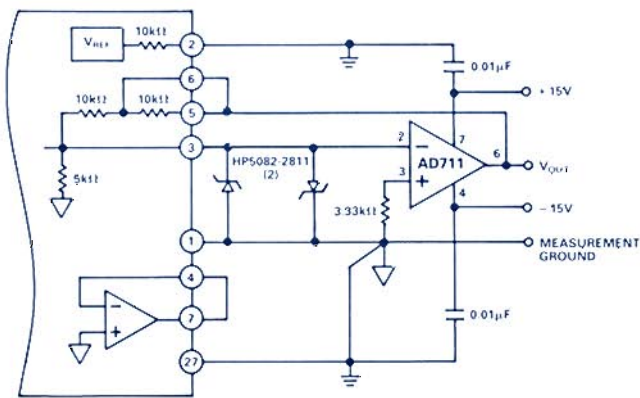

Figure 4. External amplifier for augmented DAC-output performance.
**External Output Amplifier:** The AD1139's output amplifier is optimized for very low noise, dc-stable applications and moderate settling time. For higher speed or more output current, an external op amp is used instead of the internal amplifier (Figure 4). The AD711 is a good choice for higher-speed applications; it will settle to within 16 bits in only 6  $\mu$ s for a unipolar full-scale step. Other amplifiers may be chosen for differing tradeoffs. The noise gain, as seen by the output amplifier, depends on the output voltage range selected: it is 2 for 0 to +5 V range, 3 for 0 to +10 V, and 7 for the  $\pm 10$  V range. The amplifier selected must be stable at the noise gain corresponding to the output range.